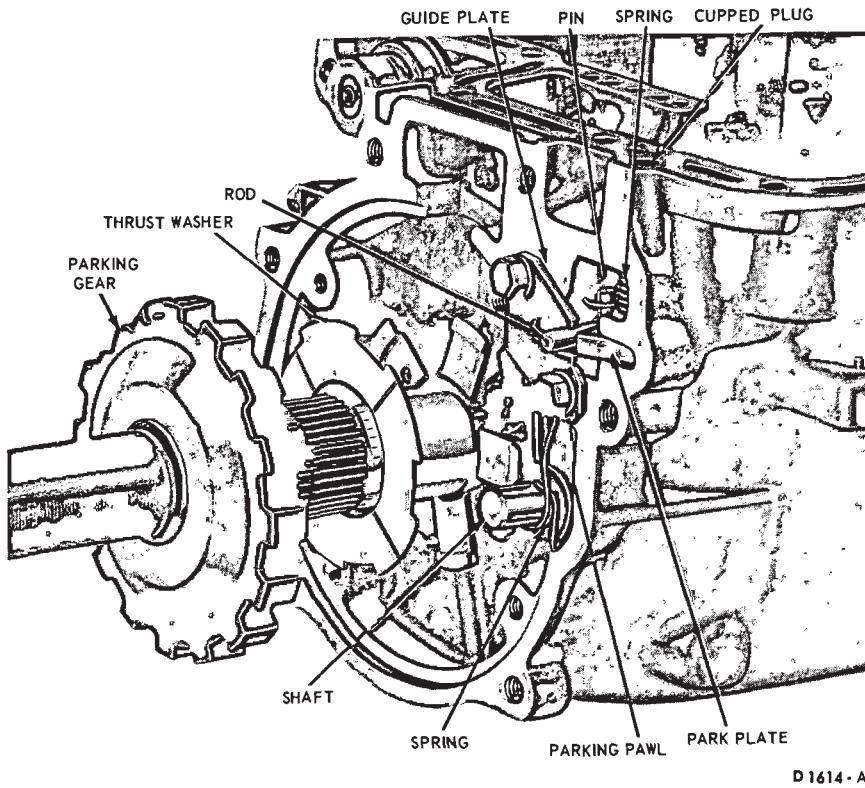

FIG. 33—Parking Pawl Mechanism
1. Remove the bolts that secure the parking pawl guide plate to the case (Fig. 33). Remove the plate.
7. Install a new cupped washer (Fig. 33) to retain the shaft.